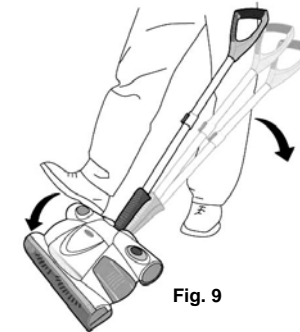

Fig. 9
3. To release the handle to a comfortable position, apply pressure to the top of the sweeper head with your foot while pulling back on the handle. (Fig. 9)